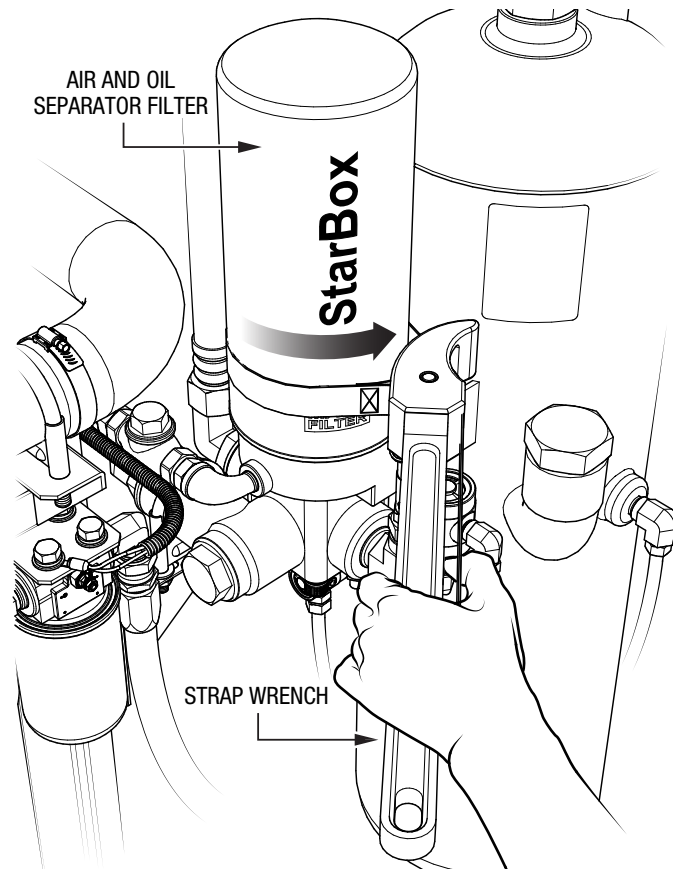

Figure 25. Air and Oil Separator Filter Removal
1. Remove the air and oil separator filter with a strap wrench (Figure 25). Take care to prevent oil from dripping inside the filter assembly during removal.